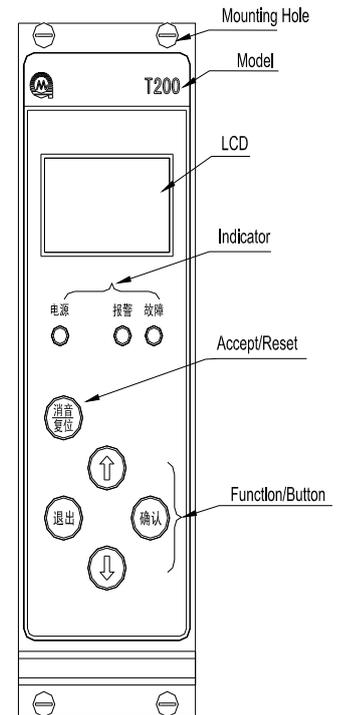

Figure 2: Front Panel of T200 Register Card
3.2.1 Function of T200 Register Card Front Panel (see Figure 2 front panel of T200 register card )